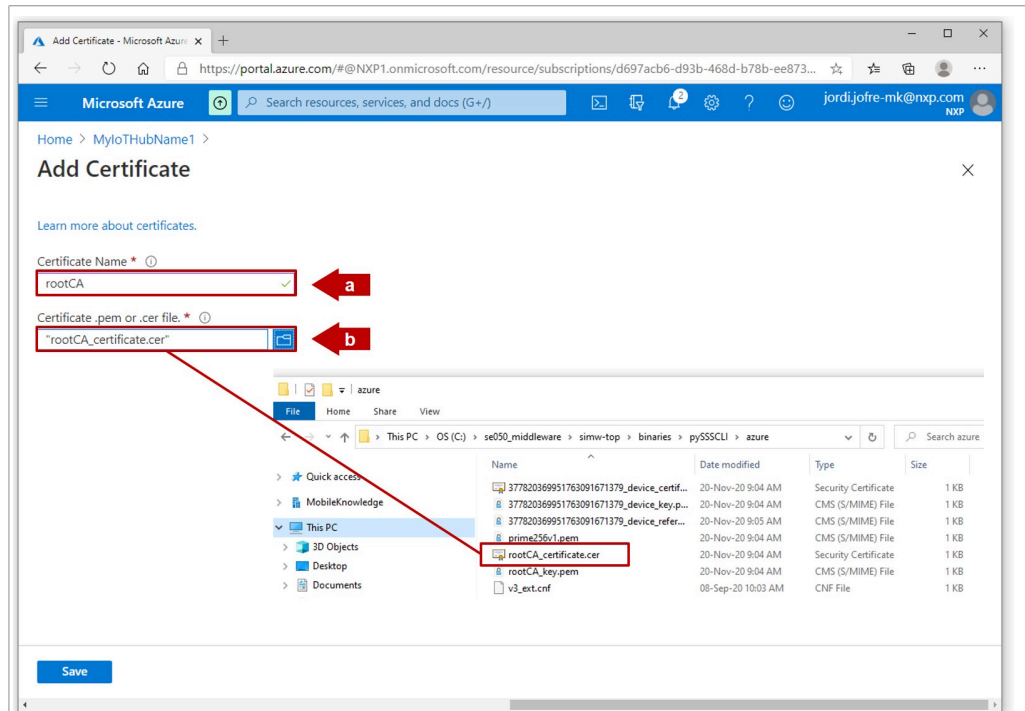

Figure 49. Upload a root CA certificate II
- b. Upload the rootCA certificate that we generated in Figure 49.